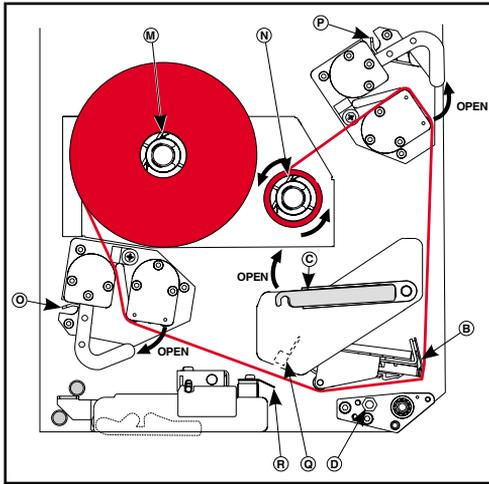
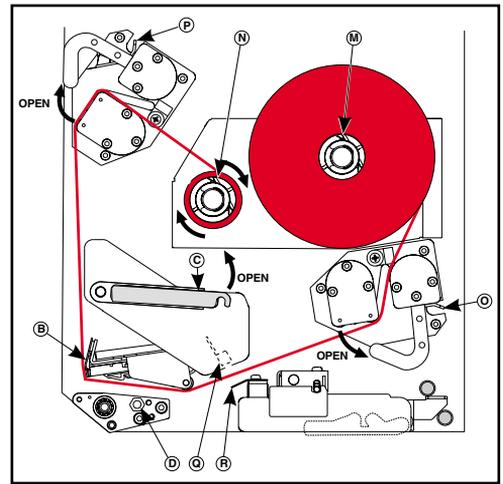

Figure 6
Figure 7
To load ribbon, refer to Figure 6 (for right-hand units) or Figure 7 (for left-hand units).
1. Install the ribbon roll onto the supply spindle (M) and push it on until it is fully seated, so the ribbon feeds as shown in Figure 6 for right-hand units or Figure 7 for left-hand units.
2. Install an empty ribbon core onto the ribbon take-up spindle (N) and push it on until it is fully seated.
3. Open the printhead assembly (B) by unlatching the printhead latch (C) from the locking pin (D).
4. Using your thumb and the side of your index finger, squeeze the ribbon supply dancer arm opening tab (O) toward the outer U-shaped channel and pivot open the dancer arm. Carefully thread the ribbon between the two U-shaped channels, and then **slowly** release the ribbon supply dancer arm.
5. Thread the ribbon under the printhead assembly (B) and then up toward the ribbon take-up dancer assembly.
6. Using your thumb and the side of your index finger, squeeze the dancer arm opening tab (P) toward the inner U-shaped channel and pivot open the dancer arm. Carefully thread the ribbon between the two U-shaped channels, and then **slowly** release the dancer arm.
To remove used ribbon, refer to Figure 6 (for right-hand units) or Figure 7 (for left-hand units):